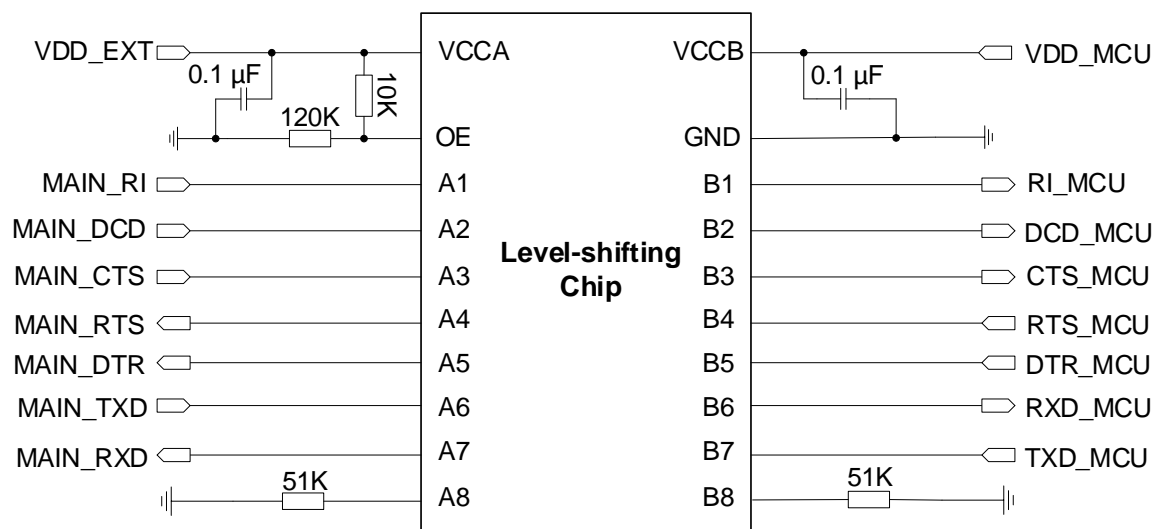
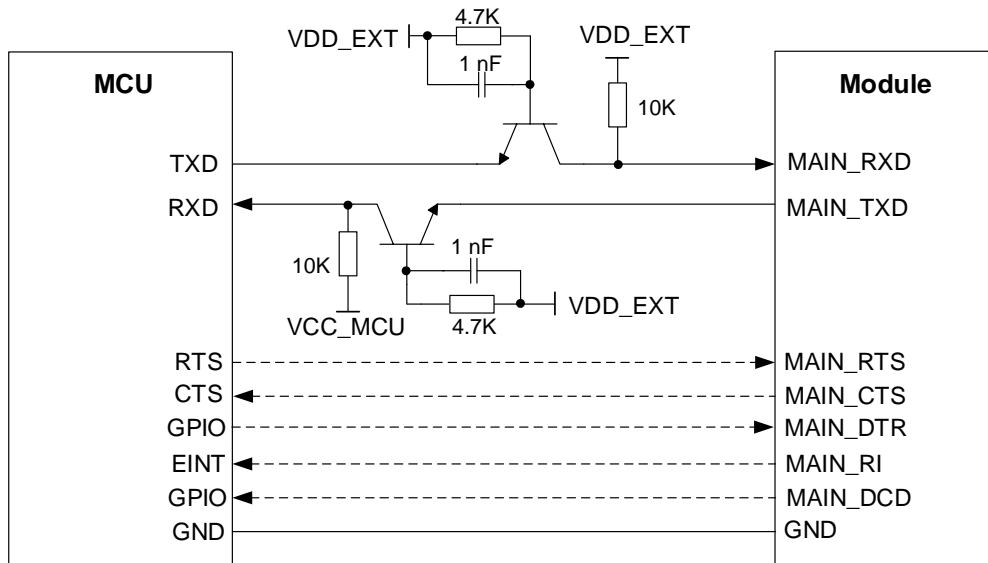

Figure 25: Reference Design of UART with Level-shifting Chip (Main UART)
Figure 26: Reference Design of UART with Transistor Level-shifting Circuit (Main UART)
3. The level-shifting circuits (**Figure 25** and **Figure 26**) take the main UART as an example. The circuits of debug UART, GNSS UART and GNSS debug UART are connected in the same way as the main UART.